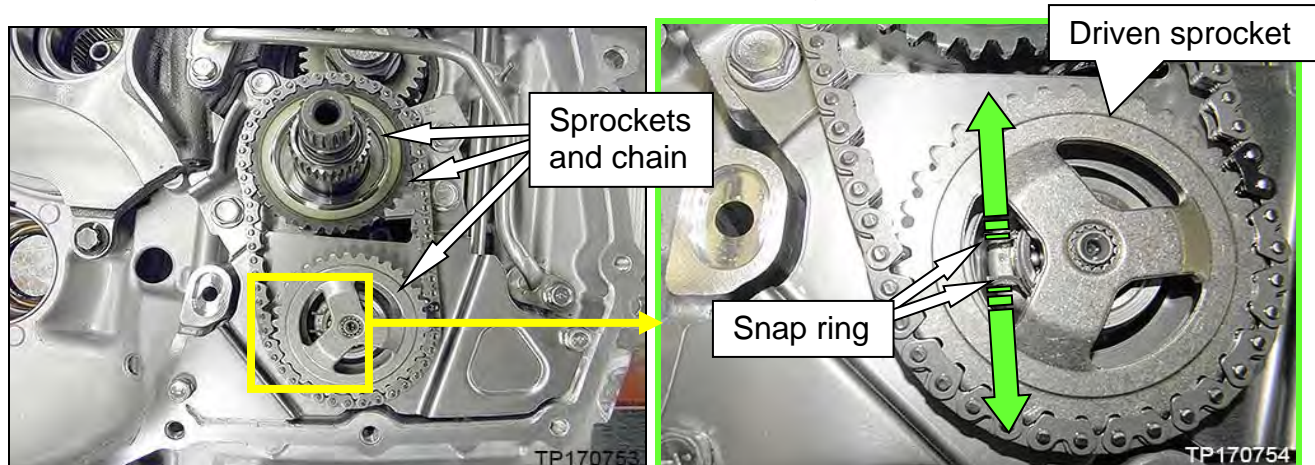

Figure 12R
13. Install the oil pump chain onto the oil pump sprocket and the drive sprocket and then lower onto the oil pump shaft (driven sprocket) (Figure 12R).
14. Expand the snap ring with a suitable tool (Figure 12R), and then push down on the driven sprocket until it bottoms out.
15. Release the snap ring and then pull up on the driven sprocket until the snap ring locks into its groove (Figure 12R).